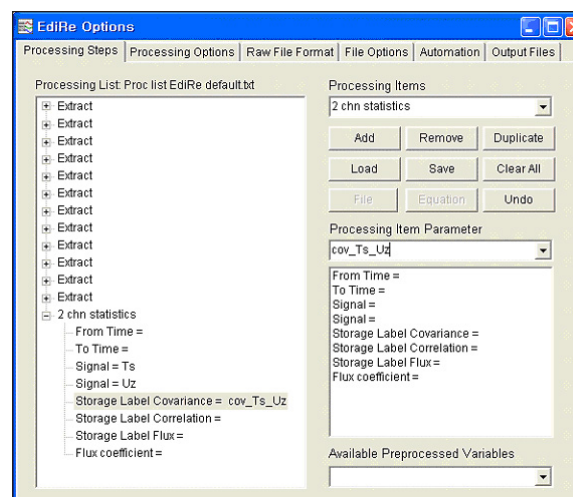

**Figure 8:** The "+" has been clicked to expand the processing options.
18. Using the “Processing Item Parameter” pull-down list, select the appropriate values for the “Signal” parameters (see Figure 8). The values selected for Signal’s are the raw values that will be used for computation. The available values from the “Processing Item Parameter” list will have the same variable names that you used on the datalogger program to store the raw data.